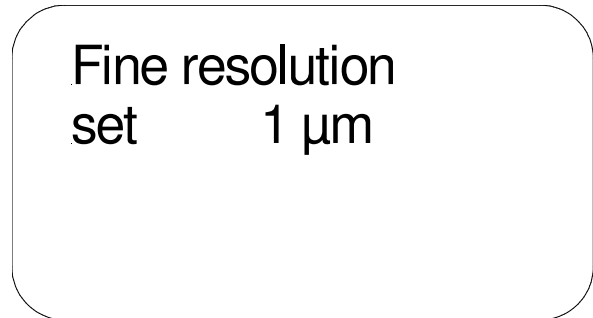

Fig. 27
- Here the following pre-selections can be selected (fig. 27):